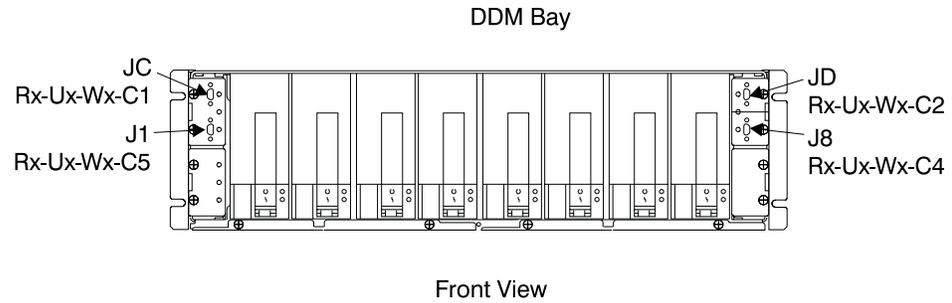

Figure 362. DDM bay SSA Connector Locations (S007703I)
- ___ 6. Route and connect the SSA device cables stored in the 2105 Expansion Enclosure through to the DDM bay they connect to in the 2105 Model E20/F20. Refer to the label on each SSA cable. See Figure 361 on page 370 and Figure 362 on page 371. Connect the SSA device cables to the indicated 2105 Model E20/F20 DDM bays.